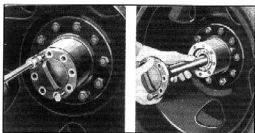

Fig. 15—Loosening and Removing Axle Shaft
3. Install two 7/16"- 14 cap screws in the threaded holes provided in the axle shaft flange. Turning these cap screws alternately, the axle shaft may easily be removed. Remove the axle shaft and aluminum gasket, Fig. 15.